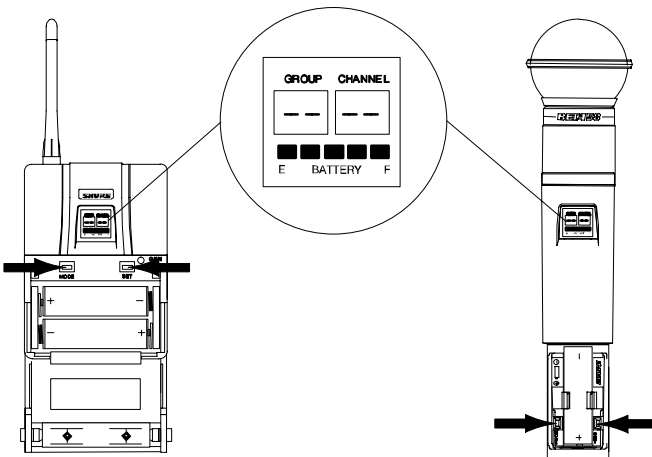

FIGURE 45
3. To verify that the frequency lock function is turned on, press the MODE or SET button. If the lock function is turned on, “--” appears on the transmitter screen, as shown in Figure 45.